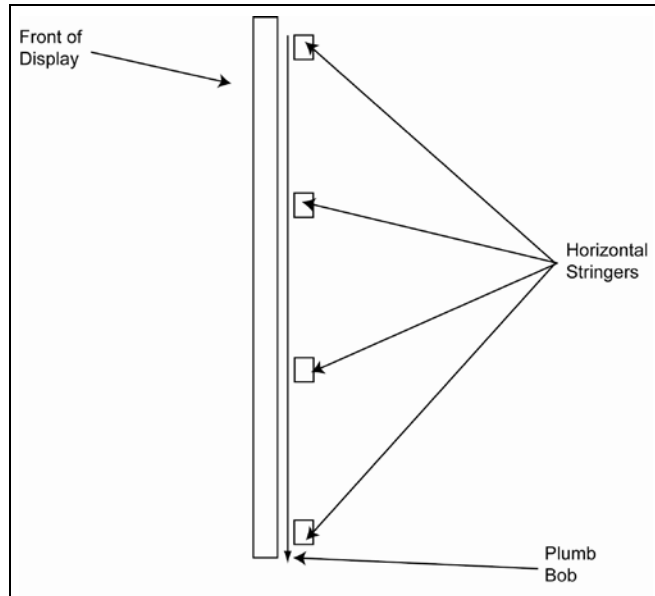

Figure 5: Horizontal Stringers
- All horizontal stringers are plumb. Run a plumb bob from the top horizontal stringer down to the bottom of the display. Refer to **Figure 5** for an example.